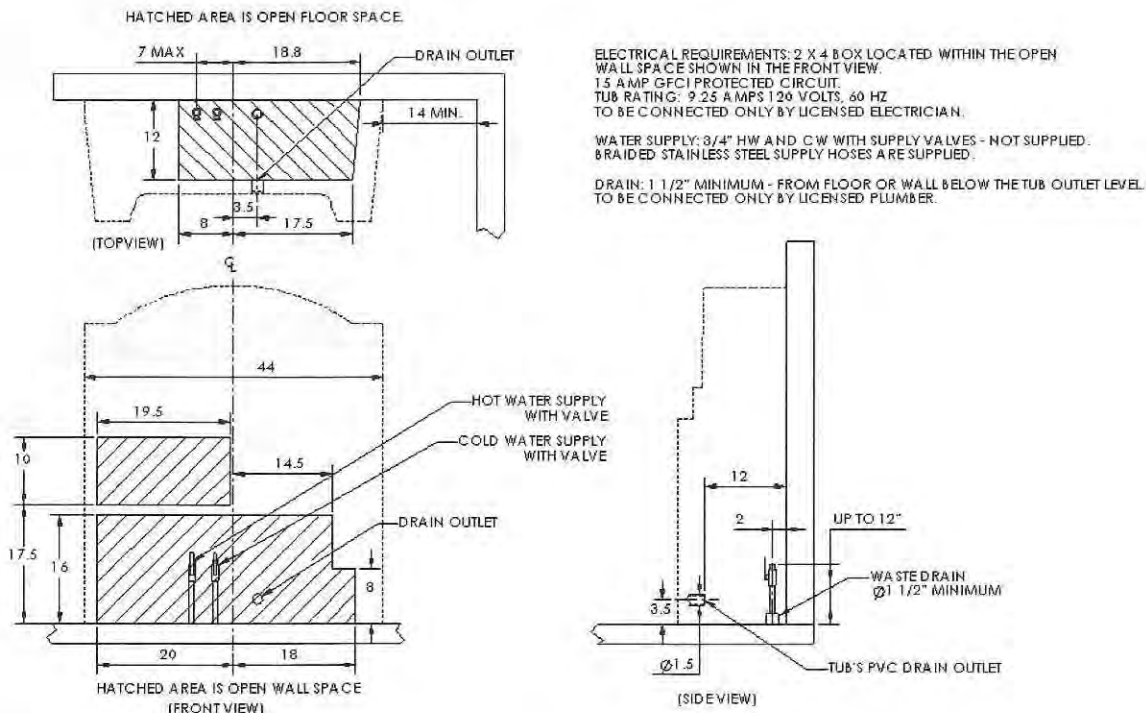

Figure 4
The spa is equipped with a 1 1/2" actual O.D. PVC drain pipe. As shown in Figure 4, the spa's drain pipe is approximately 12" from the wall and 3 1/2" above the floor. Figure 4 shows two different options for roughing in the drain pipe – from the floor or from the wall.
3/4" supply lines with on/off valves with 3/4" NPT female threads. We recommend 3/4" ball valve with 3/4" NPT female ports. (Valves supplied by others.) See figure 4 for recommended locations.
12. Slide tub and cabinet back to the wall as shown in figure 4.